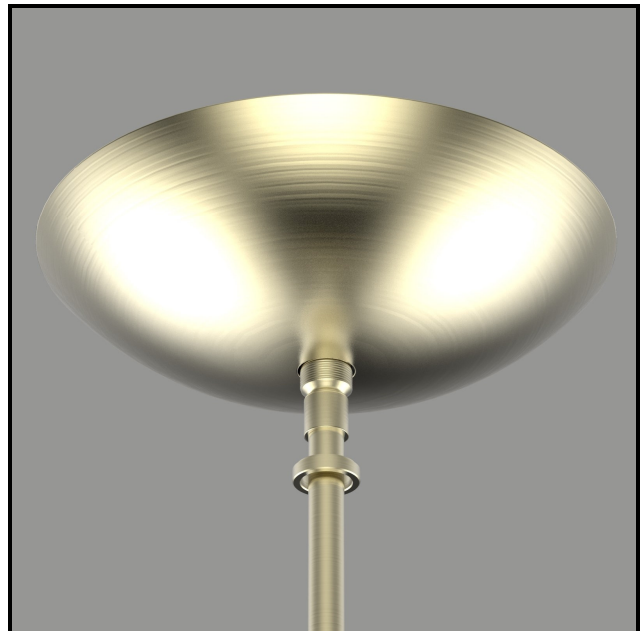

Figure 11
- Slide canopy up stem and secure in place with threaded ring. (Figure 11)